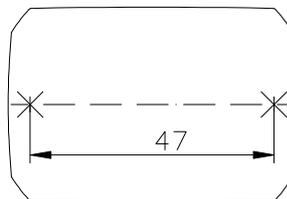

Figure 9. Drilling Pattern
5.3. The S2000-PP can be mounted on a wall, behind a suspended ceiling, or on other structures of the premises at places protected against atmospheric fallouts, mechanical damage, and unauthorized access. The drilling pattern for hanging the S2000-PP by means of woodscrews is shown in Figure 9.